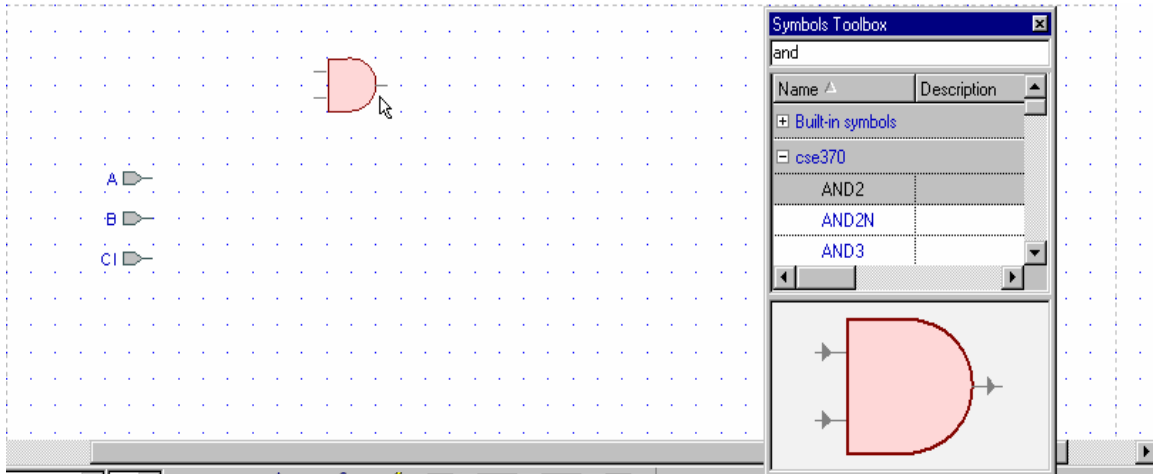

Figure 15
1. You are required to use the components located in the standard class library. **Do not use built-in symbols.** Therefore, you need to add the symbols for the components in the standard class library to the symbols toolbox using the Library Manager. Open the Library Manager by clicking the Library Manger icon in the toolbar (Figure 15).